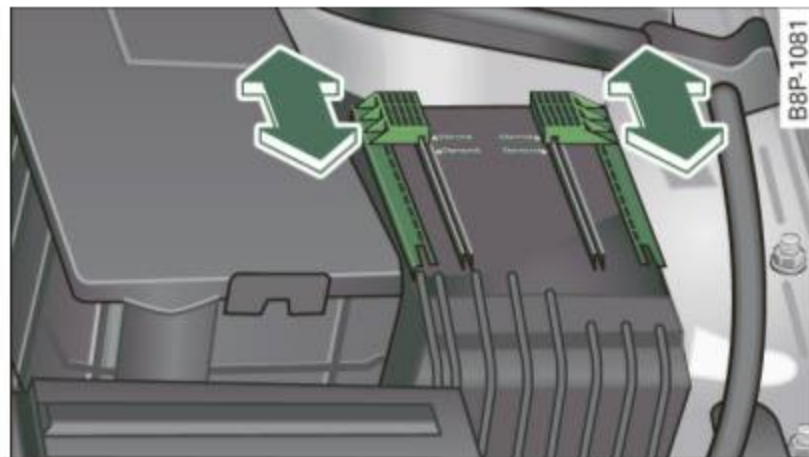

Fig. 194 Left side of
- Unlatch the fuse cover, push the two slides forward ⇒ fig. 194.
- Push the two slides to the rear ⇒ *page 281*, fig. 194. Install the fuse cover carefully to prevent water from entering.